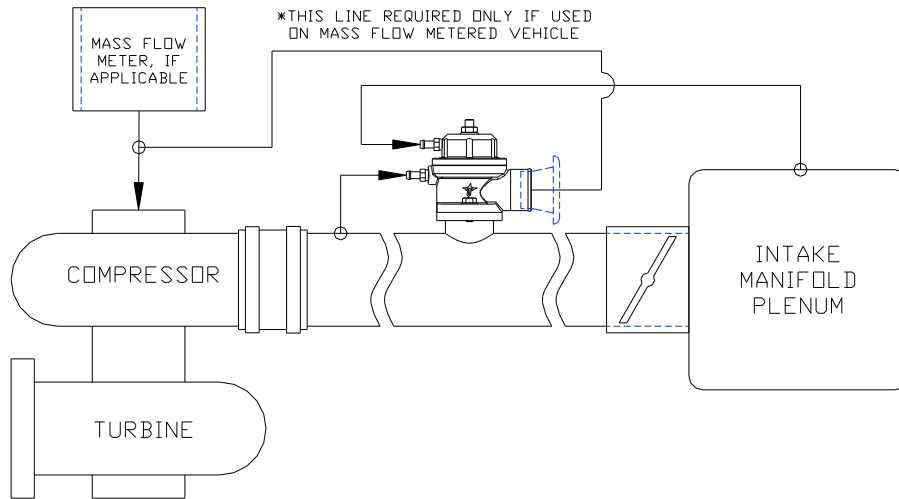

Figure 2
1. The **Raptor Valve** can be installed in any position or orientation between the turbocharger compressor discharge and the throttle body per Figure 2. Care should be taken to insure that the valve assembly is NOT exposed to extreme heat, as the diaphragm and o-ring seals have a 450 degree F temperature limit.
5. Refer to the sensing line schematic shown in Figure 2. A minimum sensing line size of 1/8" I.D. is recommended for best response. The sensing line ports on the backside of the **Raptor Valve** are tapped 1/8" NPT. Use Teflon tape on all fitting pipe threads. Sensing line material should be suitable for automotive under-hood environment, and compatible with gasoline vapor. Care should be taken in routing sensing lines to preclude damage from any sharp edges or excessive temperatures.